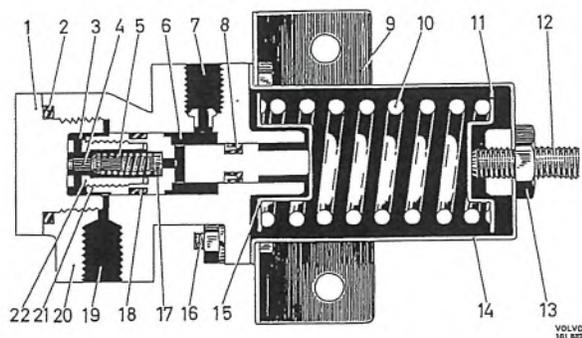
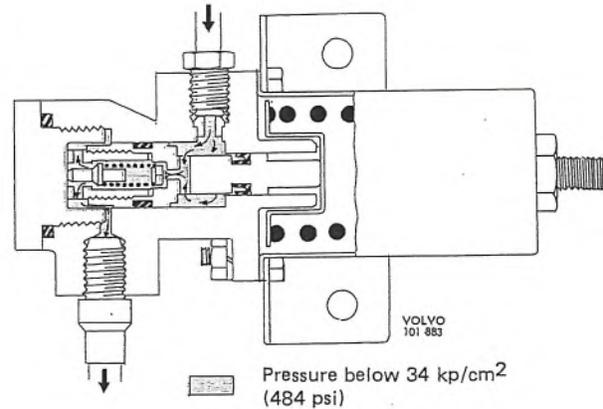

Fig. 5-41. Brake valve, construction
Fig. 5-42. Brake application
A brake valve is connected to each of the rear wheel brake lines, see Fig. 5-6. When the ingoing brake pressure exceeds 34 kp/cm² (484 psi) a reduction takes place in the valve. The more powerful the pedal pressure, the greater will be the reduction and thereby the larger the difference between the hydraulic pressure in the front wheel and rear wheel cylinders. This results in a suitable distribution of braking force between both pairs of wheels. The construction of the brake valve is shown in Fig. 5-41 and its function is the following.
When the footbrakes are applied, the pressure from the master cylinder is transmitted via the connection (7, Fig. 5-41). The pressure then proceeds through the cylinder (6), the counterbore, past the valves (17) and (4) to cylinder (3) and then on through connection (19) to the rear wheel brake cylinders, see Fig. 5-42. The hydraulic pressure per unit surface is equal on the different parts of the piston (21), but since the pressure surface is larger in cylinder (3) than in cylinder (6), the force developed will move the piston to the right of the figure. However, this is counteracted by the pressure from the spring (10).
With continued increase in pressure in the master cylinder and front wheel cylinders, the hydraulic force in cylinder (6) moves the piston to the left so that the valve rod comes up against its stop and opens the valve, this causing the pressure in cylinder (3) to increase. Due to the larger pressure surface in this cylinder, the piston is moved to the right again and the valve closes. In this way, the piston assumes a position of balance and the outgoing pressure from the brake valve will be lower than the ingoing pressure, see Fig. 5-42. The difference in these pressures is determined by the different areas and spring tension.
When the brake pedal is released, the pressure in the cylinder (6) falls. The piston (21) is moved to the right by spring (10). When the pressure on the right-hand side of the valve (4) falls so much that the hydraulic pressure on the left-hand side enables the valves to be actuated, the connection between both the cylinders is opened again. As the pressure falls, spring (10) presses the left piston back to its original position where the valve is held in the open position by mechanical means, see Fig. 5-41. The equalizing valve (17) is fitted with control channels which ensure an even flow of pressure through the valve.